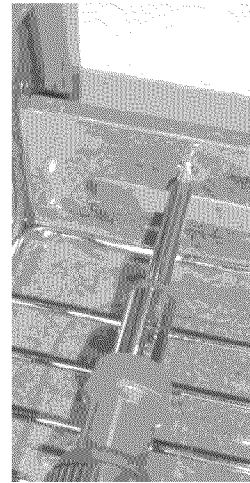

Fig. 1
2. Pull the drawer away from the oven. Using a phillips-head screwdriver remove the two drawer screws from the insides of the front oven drawer compartment -*Fig. 1*.